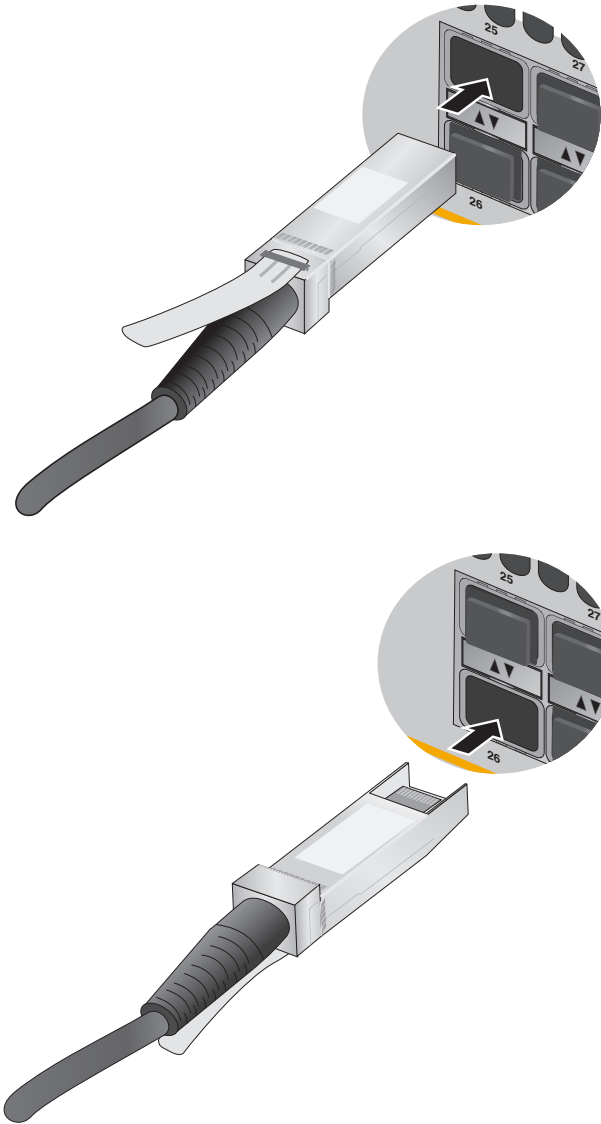

Figure 46. Installing AT-SP10TW Cables
4. To install the transceiver in a port in the top row, position the transceiver with the Allied Telesis label facing up. To install the transceiver in a port in the bottom row, position the transceiver with the label facing down. Refer to Figure 46.